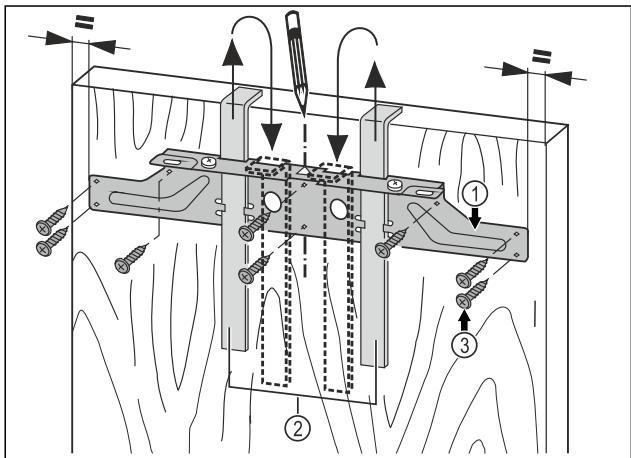

Fig. 40
- Hang the fastening bar Fig. 40 (1) with the mounting aids on the inside of the unit door Fig. 40 (2).
- Align the fastening bar Fig. 40 (1) in the centre of the door.*
- Tighten the mounting bar Fig. 40 (1) with at least 6 screws Fig. 40 (3).
- Screw the mounting bar Fig. 40 (1) to the edge with 4 screws Fig. 40 (3).
- Pull the assembly devices Fig. 40 (2) upwards and push them, at an angle, into the receiving openings.